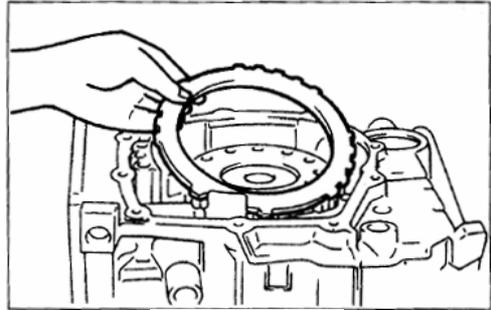

Fig 11A-86
(33) Install snap ring. See Fig.11A-87.